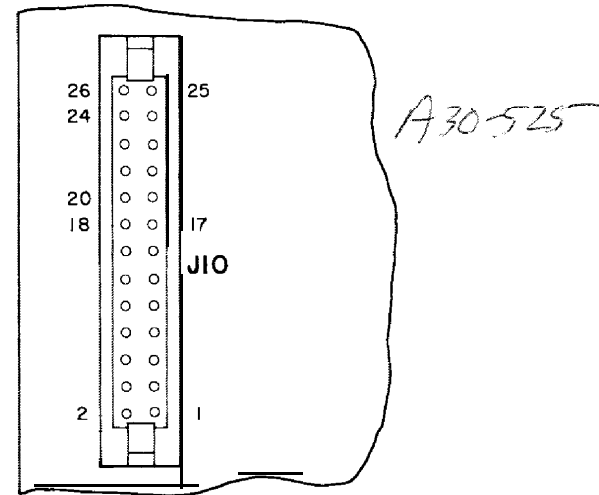

Fig. 26 — Display Board Connector
STEP 7 — DISPLAY BOARD CONNECTION CHECK-OUT Turn power OFF and disconnect ribbon cable. Connect the negative test lead to TP18 on the processor board. Turn power ON. You should get the following voltages at connector J10 (see Fig. 26).